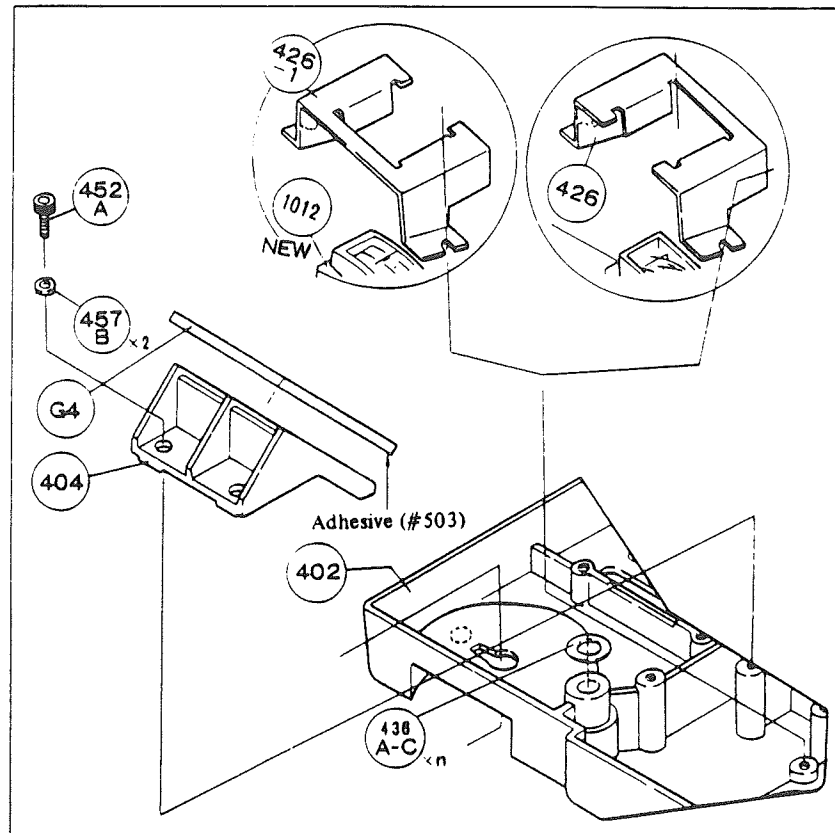

Fig. 35
- 10) After removing brightness indicator holder (only for OPTIPHOT), take off retaining ring (404). (Fig. 35).